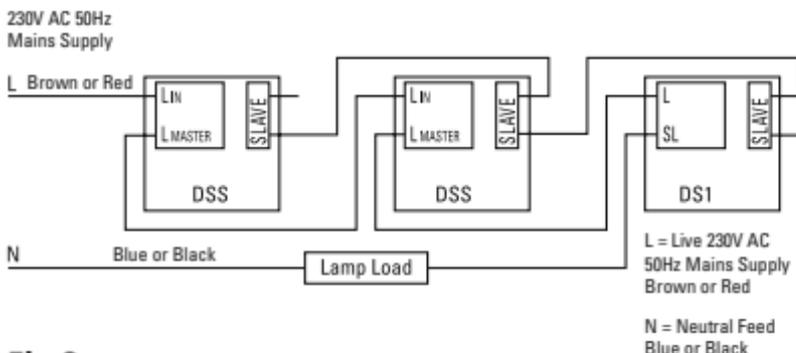

Fig 3
In a new installation the DS1 and DSS's can be wired to give control of a single lamp load by any of the switches. This is shown in fig 3.
7. Connect the slave output of the first DSS unit to the slave input of the second DSS unit as shown on figure 3. To add additional units follow instruction numbers 6 and 7 back to back until the correct amount of slaves on the circuit has been achieved.
8. Connect the L master supply from the final DSS slave unit to terminal L of the DS1 unit and the slave supply from the output of the DSS unit to the slave input of the DS1 unit as shown in figure 3.